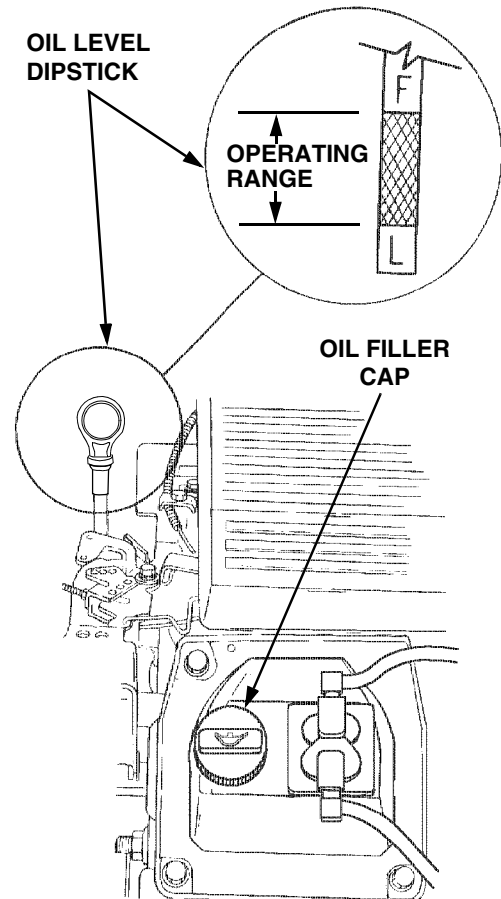

Figure 18
Regularly checking and maintaining the engine oil level in the crankcase cannot be overemphasized. Close monitoring of the oil level during the first 10 hours of operation is especially important. Referring to Figure 18, check the oil level **BEFORE EACH USE** as follows:
3. Remove the oil filler cap from the left valve cover and **SLOWLY** pour in oil. Fill the crankcase until the oil level reaches the “FULL” mark on the dipstick (Refer to Figure 18).
3. Remove the oil filler cap from the left valve cover and SLOWLY pour in oil. The oil capacity is approximately 4 pints. Fill the crankcase until the oil level reaches the "FULL" mark on the dipstick (Refer to Figure 18).